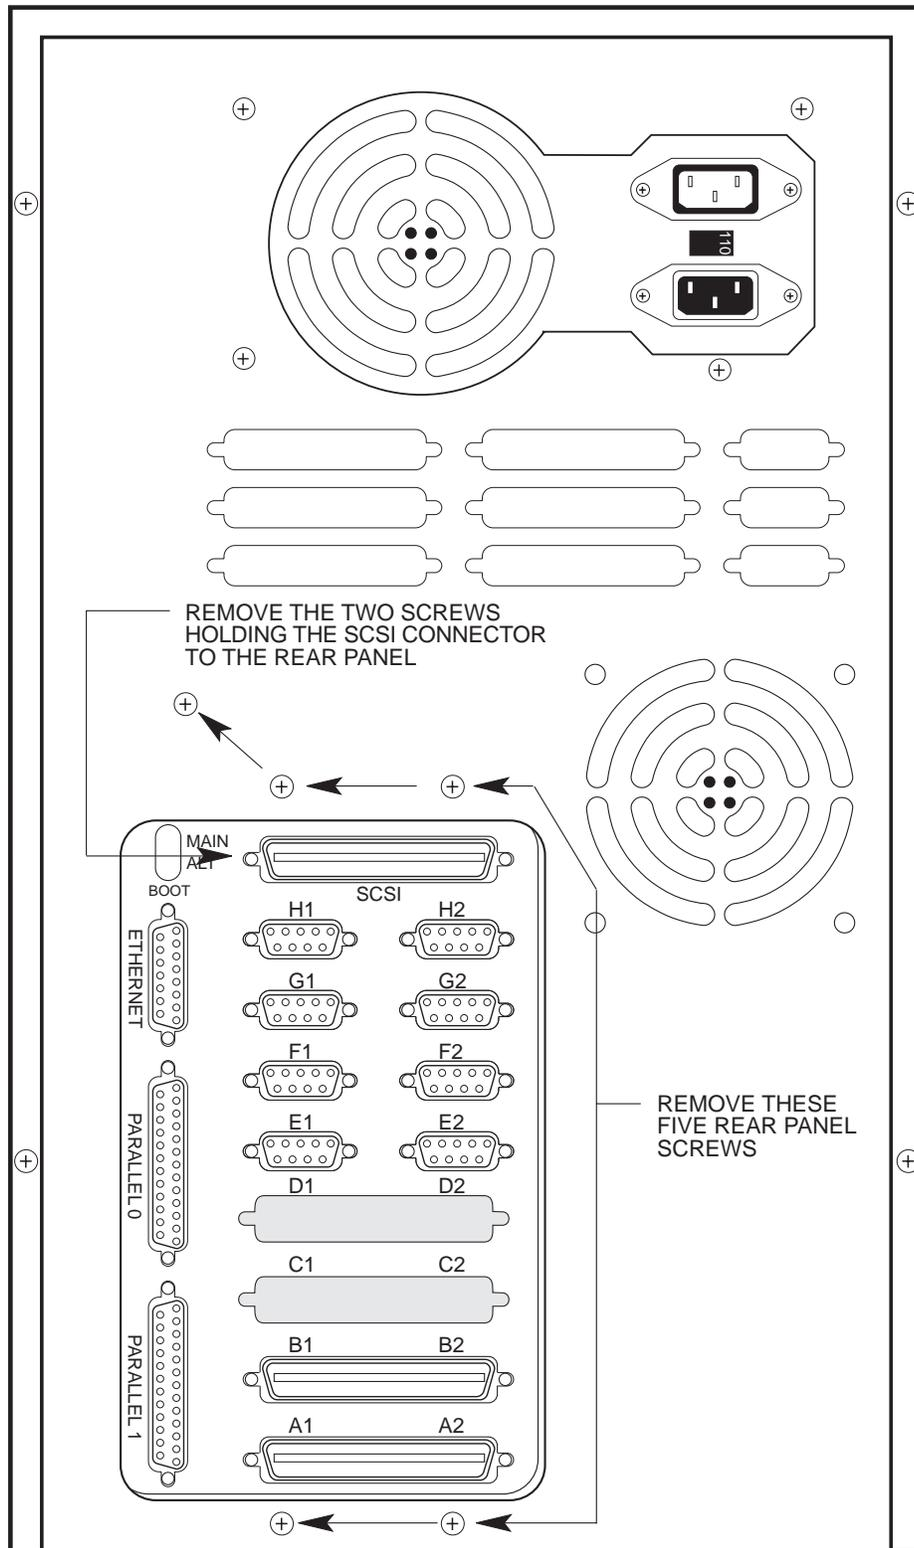

Figure 6-3: Removing the Old Rear Panel
1. Remove the five screws attaching the rear panel to the chassis, as shown in Figure 6-3.